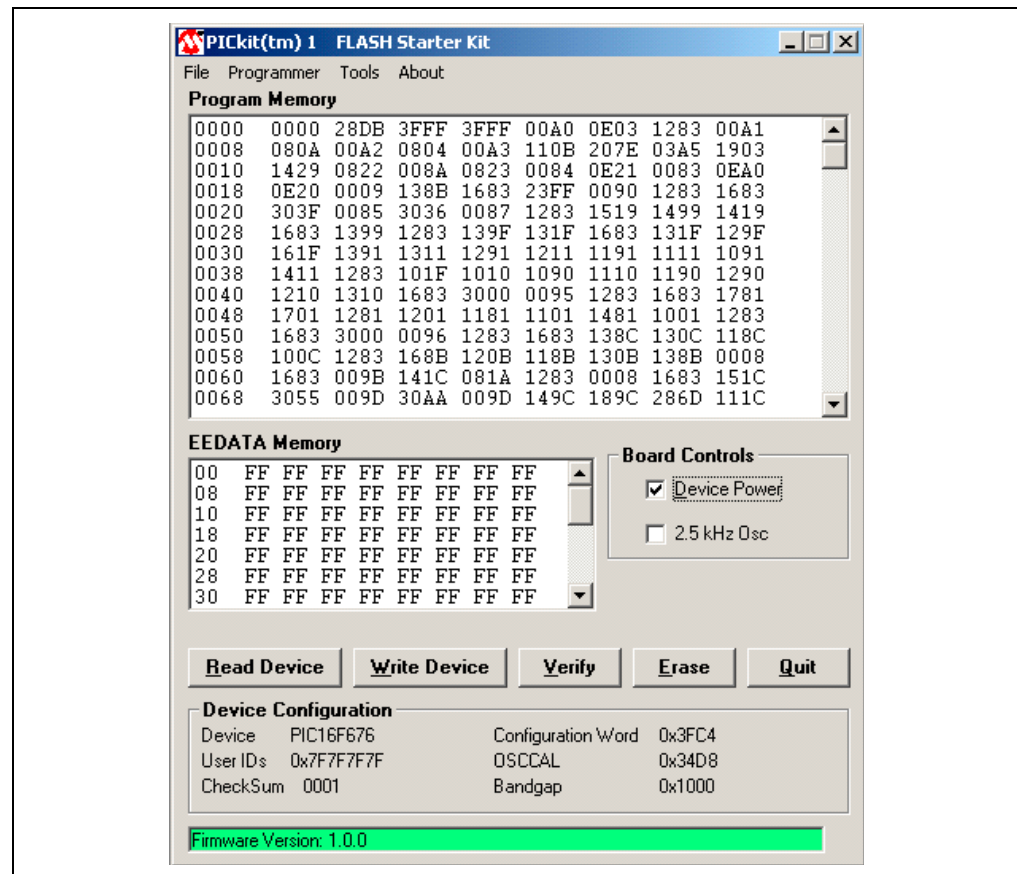

FIGURE 2-4: PICkit™ 1 Flash Starter Kit GUI Window on the PC.
3. Once the PICkit 1 Flash Starter Kit is started, the main window will be displayed on the PC as indicated in Figure 2-4.
4. Toggle device power off by unchecking the **Device Power** box under **Board Controls** in the PICkit 1 Flash Starter Kit window (Figure 2-4). The **BUSY** LED on the PICkit 1 Flash Starter Kit board will turn off once the device power is turned off.